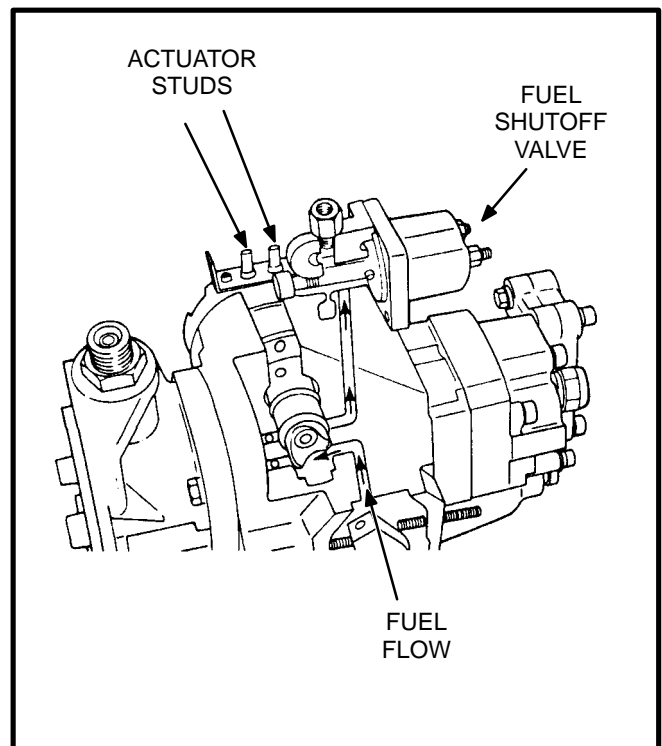

FIGURE 6-3. FUEL PUMP ASSEMBLY
2. Stop generator set, disconnect the leads to the actuator (see Figure 6-3), and connect battery voltage directly to the actuator studs. An audible click in the actuator should be heard when battery voltage is applied and removed. This check only shows that the actuator is operating (rotating to open and closed position), but not if its binding, further disassembly of fuel pump may be required to inspect/repair O-rings, pump, etc.